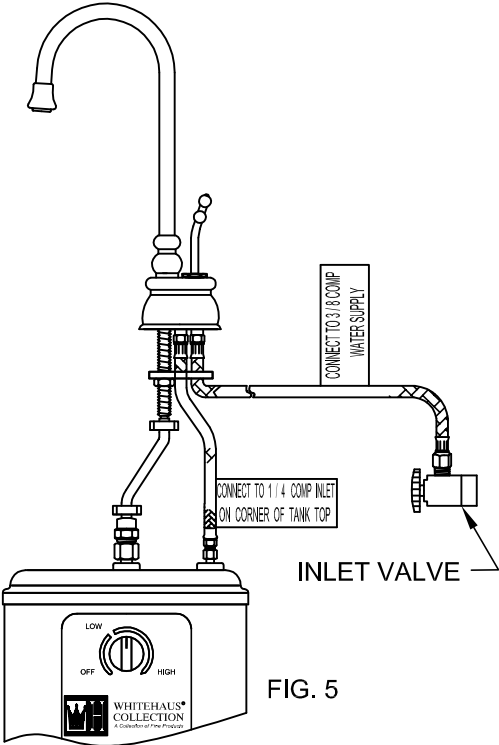

FIG. 5
9. **FOR WHFH-H4540 & WHFH-H4640** - SEE FIG 5 & 6. CONNECT WHD2001 3/8 COMPRESSION SUPPLY HOSE TO A SHUTOFF VALVE OR WATER FILTER. DO NOT CONNECT DIRECTLY TO THE WATER SUPPLY. **FLUSH** ALL LINES BEFORE CONNECTING.